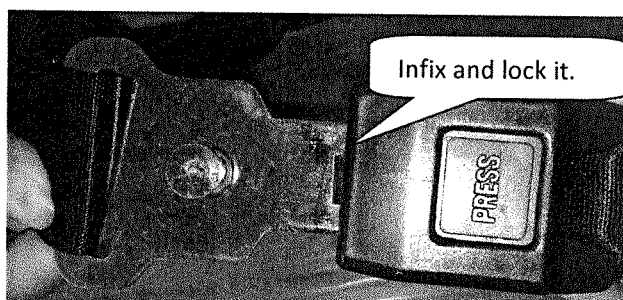

Figure 6.3.2
- Connect the locker of lap belt as figure 6.3.2;